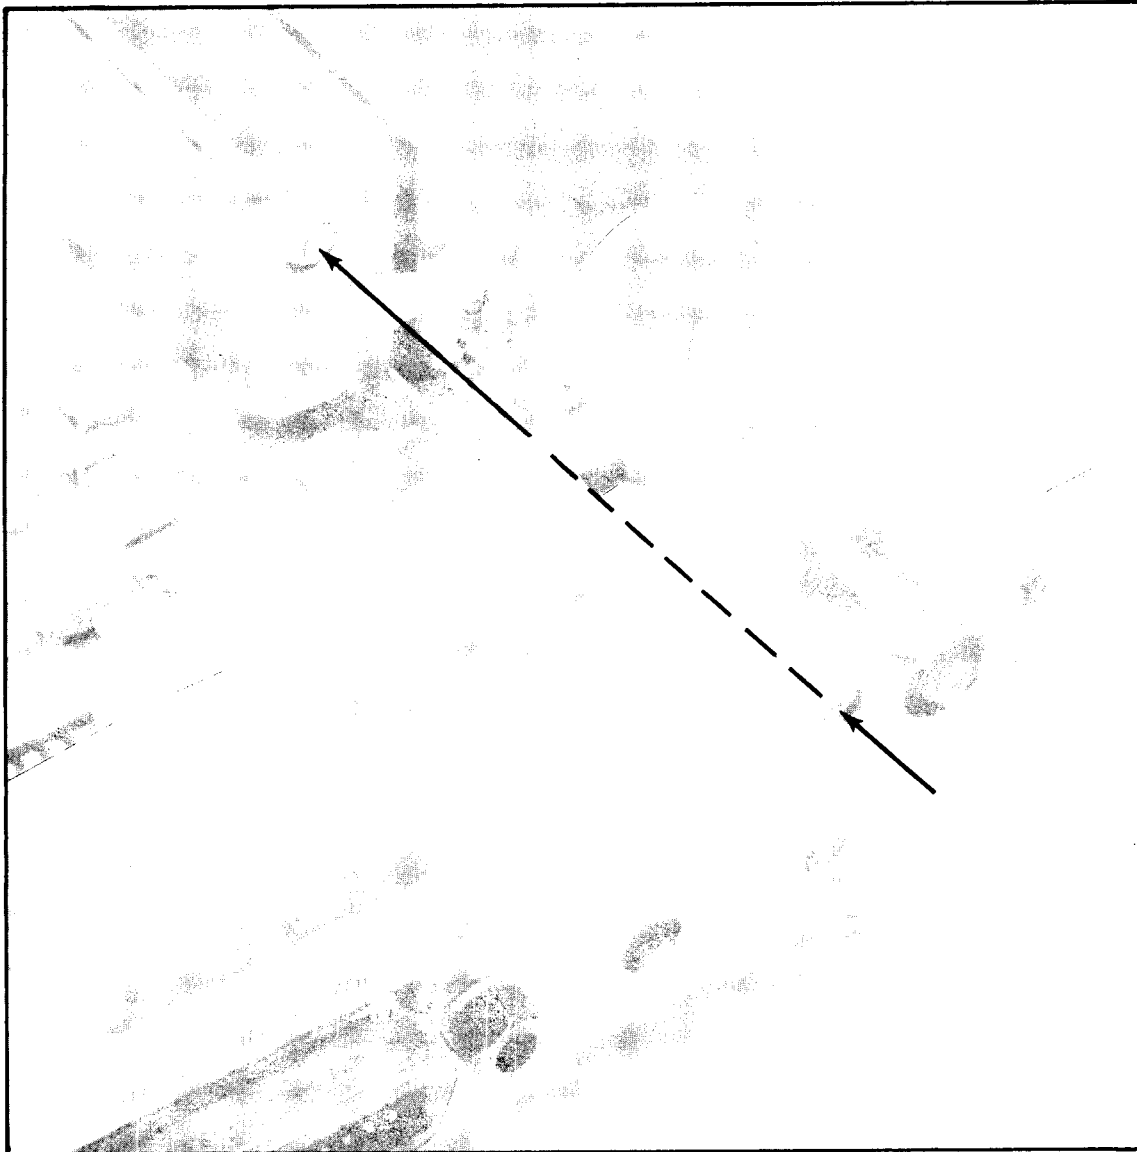

Figure 5-6. TCXO Option 001 Adjustment Location
- g. Adjust the TCXO frequency for minimum sideways movement of the 10 MHz signal with ADJ on the TCXO. See Figure 5-6.